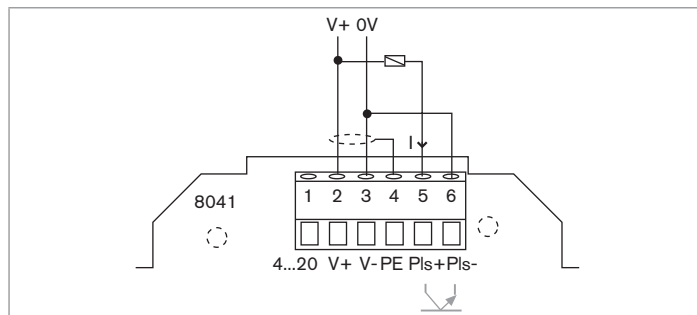

Fig. 20 : Frequency output connection to an electromechanical counter or relay
- or to a charge such as an electromechanical counter or a relay (see Fig. 20) ;